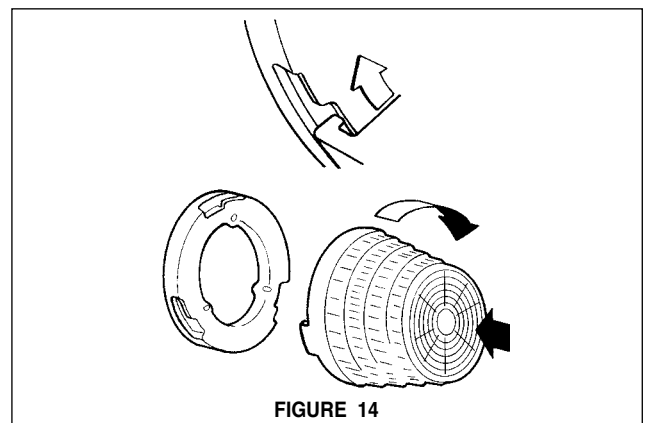

FIGURE 14
3. For ductless installations, **Charcoal Filters** are required and must be installed before the grease filters are replaced. The charcoal filters attach to both ends of the blower as indicated in **FIGURE 14**.